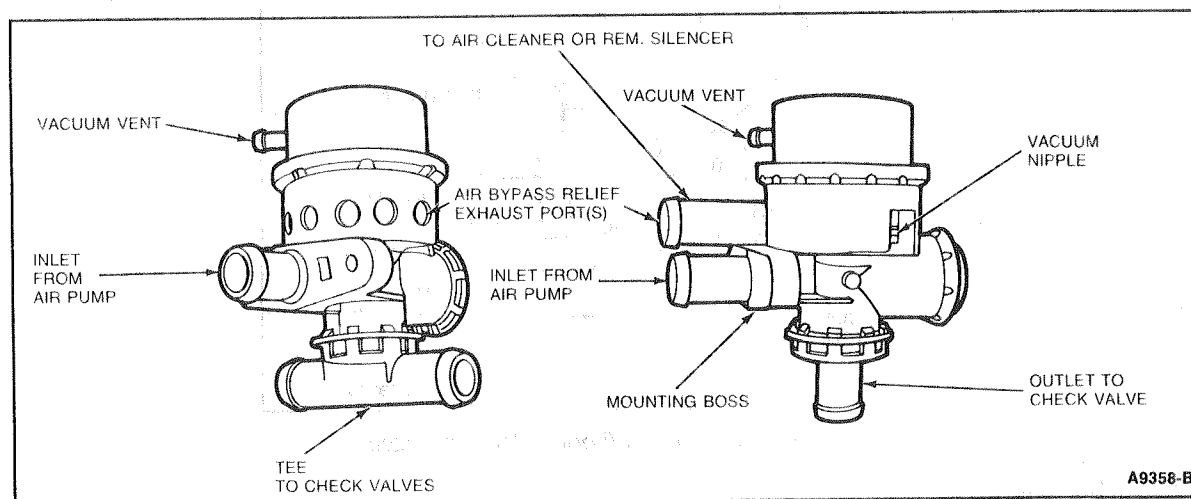

Figure 5 Normally Open Air Bypass Valves
1. Disconnect the air supply line at the valve outlet (Figure 5) and relief port if applicable.
5. Air pump supply air should be heard or felt at silencer ports (Figure 5) during the momentary dump. Restore all original connections. If any of the above tests are not satisfactorily completed, check the air pump. If the air pump is operating satisfactorily, replace the air bypass valve.